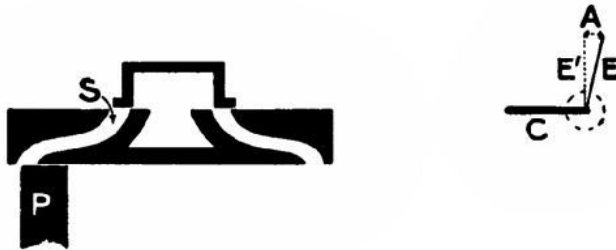

Fig. 26.
It must be noticed here—(1) that steam is admitted at full pressure *all through* the stroke; (2) that admission begins and ends simultaneously with the stroke. Now, in actual practice it is necessary to admit steam before the piston has ended its travel, so as to *cushion* the violence of the sudden change of direction of the piston, its rod, and other moving parts. To effect this, the eccentric is set more than 90° in advance—that is, more than what the engineers call *square*. Fig. 26 shows such an arrangement. The angle between E and E¹ is called the *angle of advance*. Referring to the valve, you will see that it has opened an appreciable amount, though the piston has not yet started on its rightwards journey.